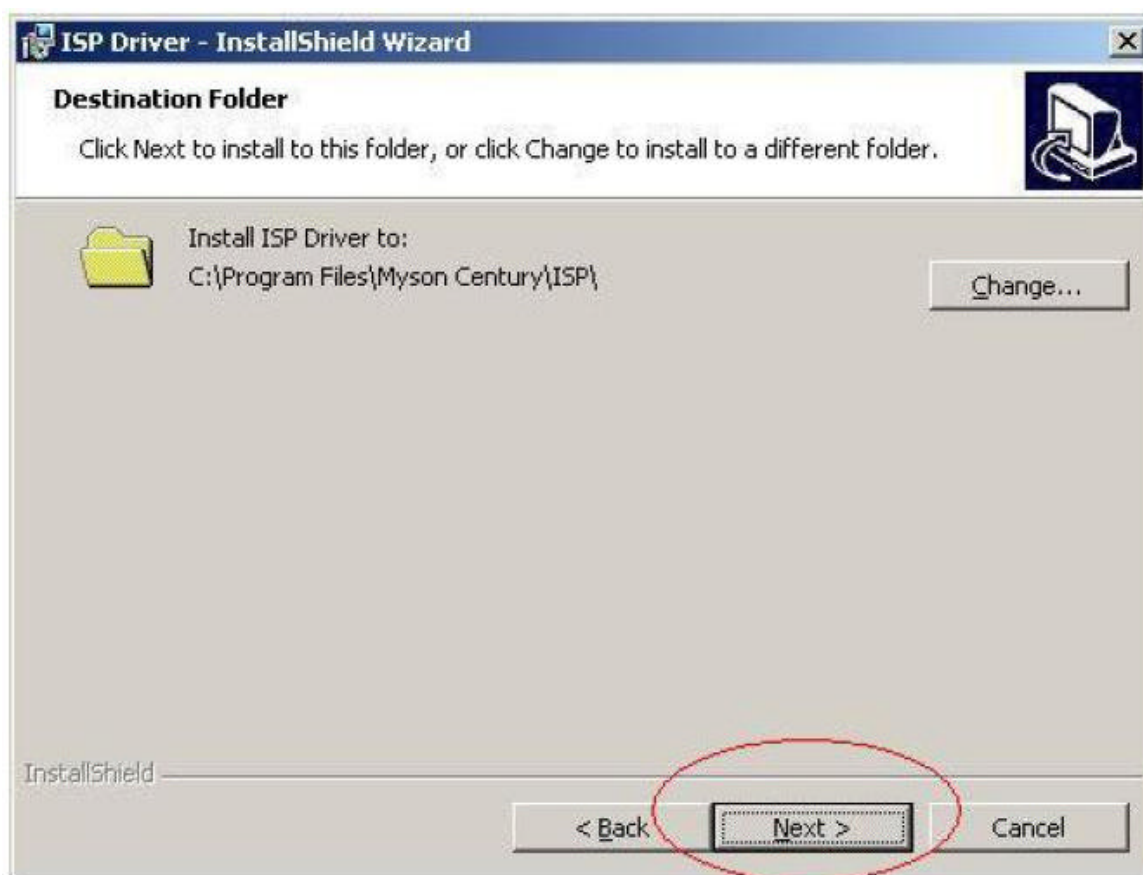

Fig 1.2
1.4 Keep default setting or press “ Change “ button for selecting the path that you want , and then press “ Next “ button to continue , see Fig 1.2